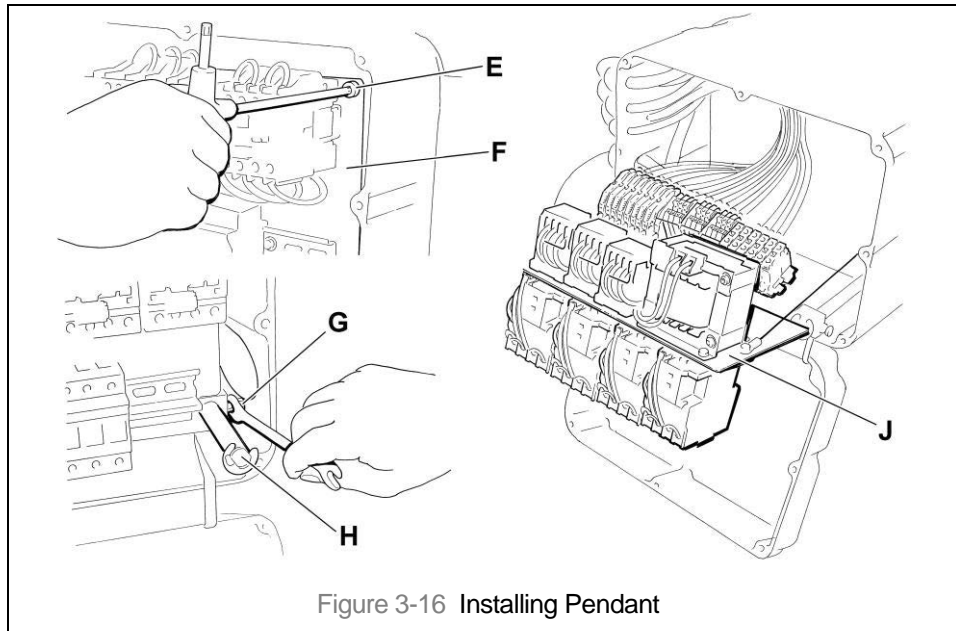

Figure 3-16 Installing Pendant
- 1) Refer to Figure 3-16, the wiring diagram and the interconnection diagram provided with the Hoist.
- 2) Remove Control Cover (A).
- 3) Access to Terminal Strip: For hoists with the integral electrical enclosures (plastic cover), the Terminal Strips are located on the back side of the Panel (F). Gain access by removing the Socket Bolts (E) securing the Panel (F), loosening the Set Bolts (G) on the Support Bars (H), then slide and rotate the Panel (F) forward.
- 4) Loosen the Cable Fitting (C) located on the left side of the electrical enclosure and insert the pendant cord. Pull through enough cord to reach the terminals then securely tighten the Cable Fitting (C).
- 7) Reattach the Control Panel (F) and replace the Control Cover (A) or close the metal electrical enclosure. Be careful to not damage the seal or sealing surfaces and make sure to securely tighten all fasteners or latches.